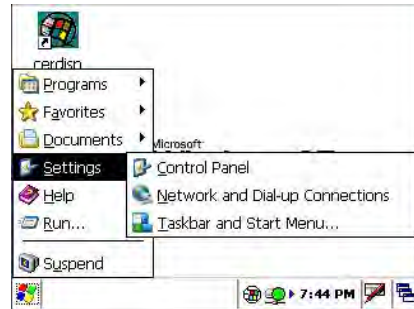

Figure A.5 Selecting Control Panel
- 6 Select **Settings**, and **Control Panel**, as illustrated in Figure A.5.